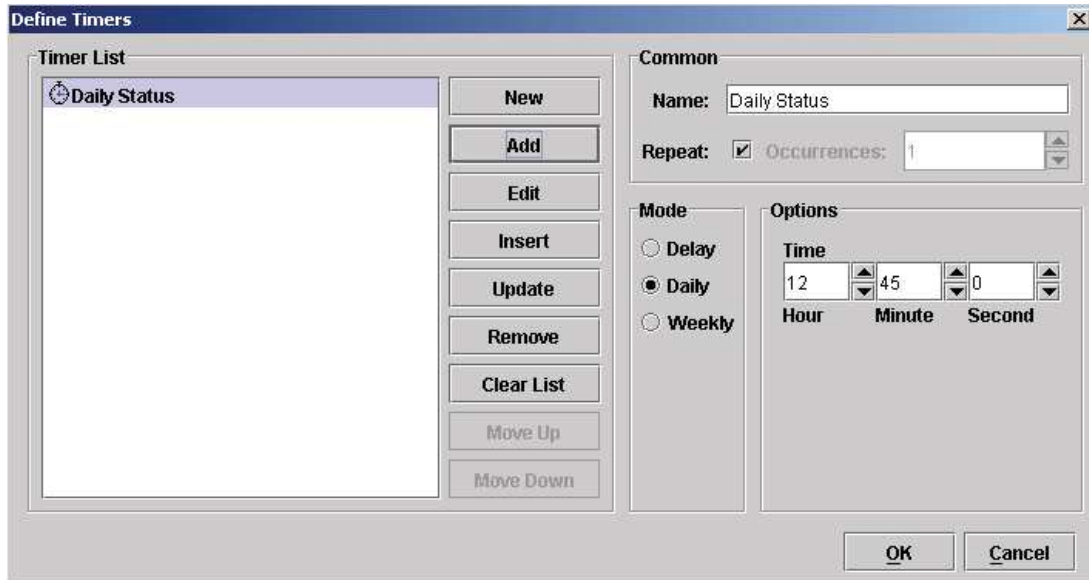

Figure 219 Setting a Daily Timer
6. Click **Add**. The Daily Status timer is added to the Timer List. See Figure 219.